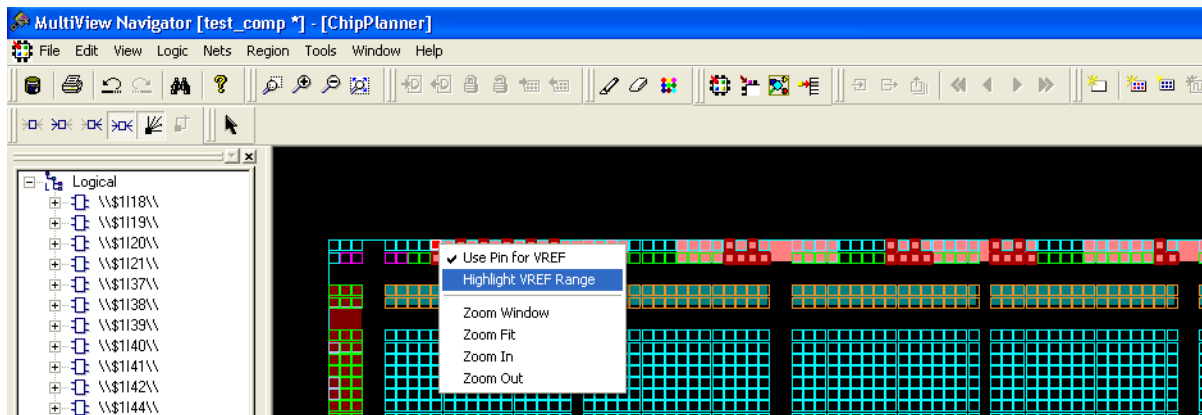

Figure 18 • V_{REF} Range
4. Right-click and then choose **Show V_{REF} range**. All the pins covered by that V_{REF} pin will be highlighted (Figure 18).